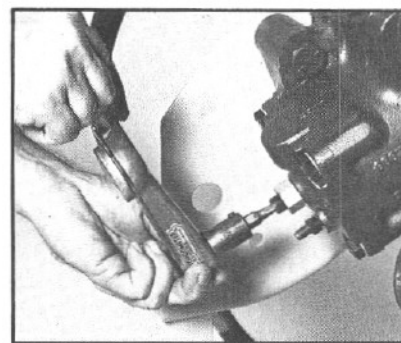

Figure 30
NOTE: While torquing the adjusting screw, make sure that the worm shaft adjusting screw jam nut (38) does not tighten (FIG. 30).